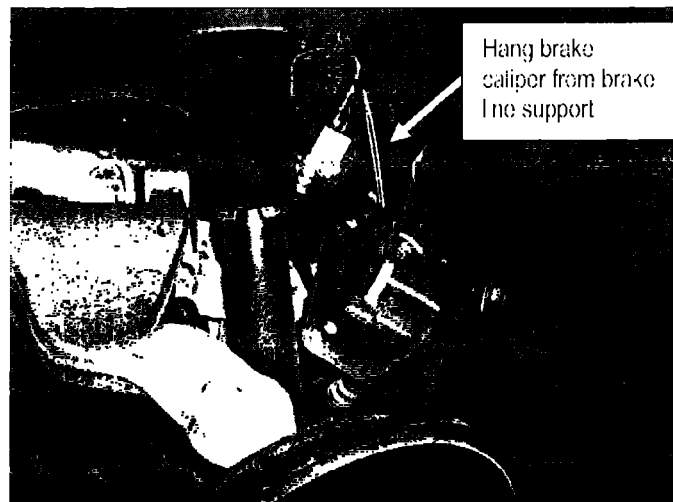

Figure 39
5. Remove both brake calipers and hang them from the brake line supports with wire (see Figure 39).